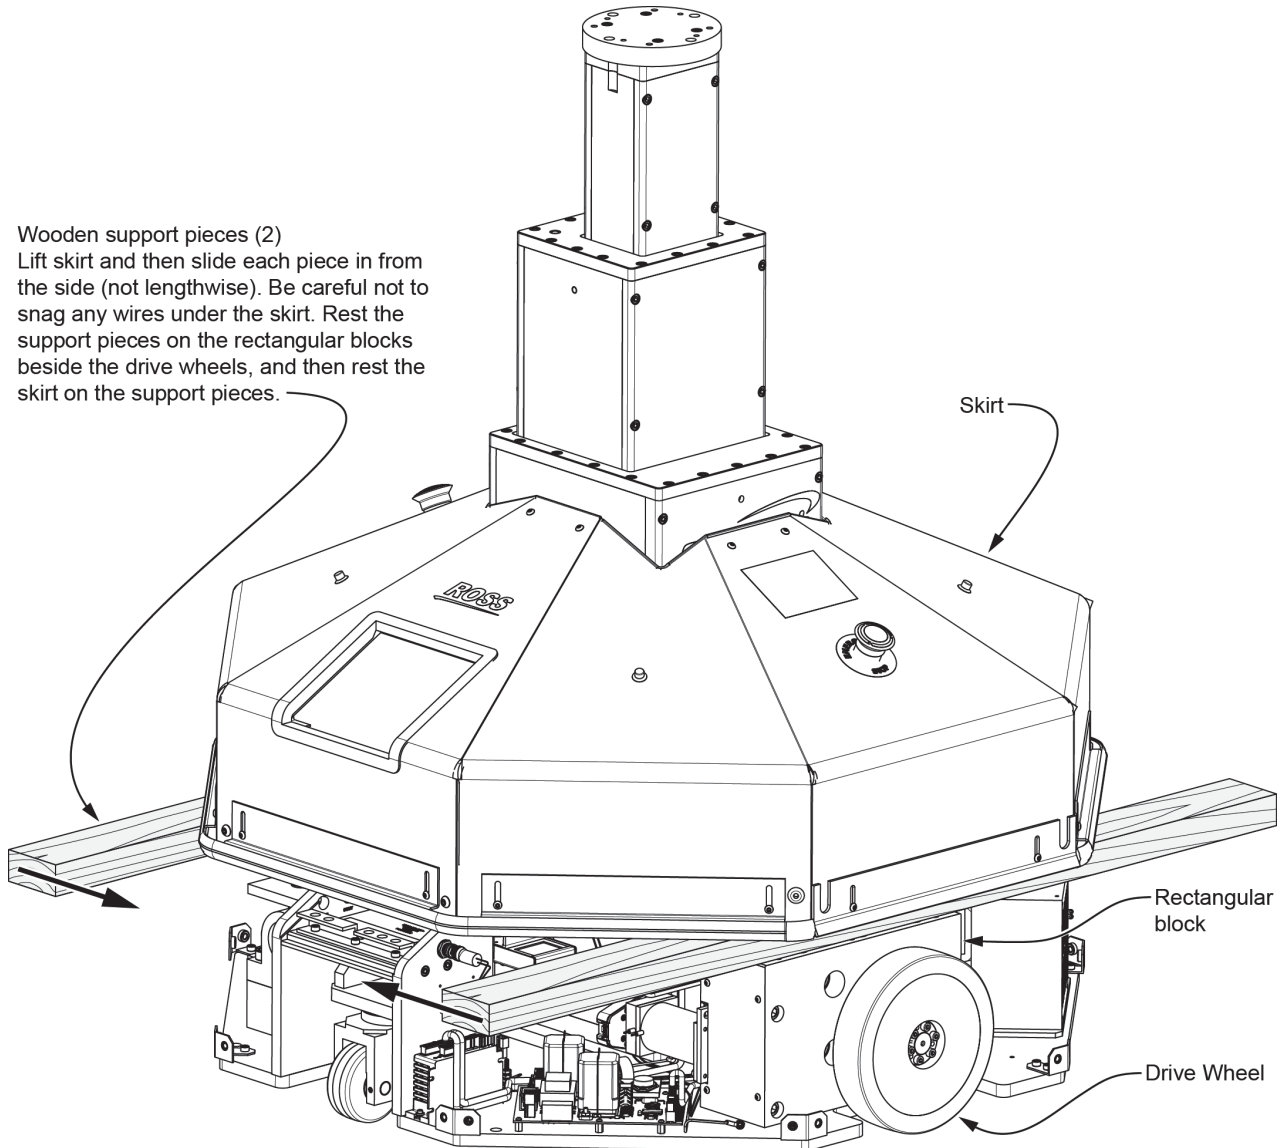

Figure 5 - Lifting and Supporting the Pedestal Skirt (CamBot 700XY pedestal shown)
4. With one person on each side of the pedestal, slowly lift the skirt approximately 10 inches (25cm) and then slide the support pieces under the skirt so they rest on the rectangular blocks beside the large blue drive wheels. Lower the skirt onto the support pieces, as shown in **Figure 5**.
IMPORTANT: When you insert the support pieces, avoid snagging or pinching any cables under the skirt. Slide the support pieces in from the side, not lengthwise (see **Figure 5**).